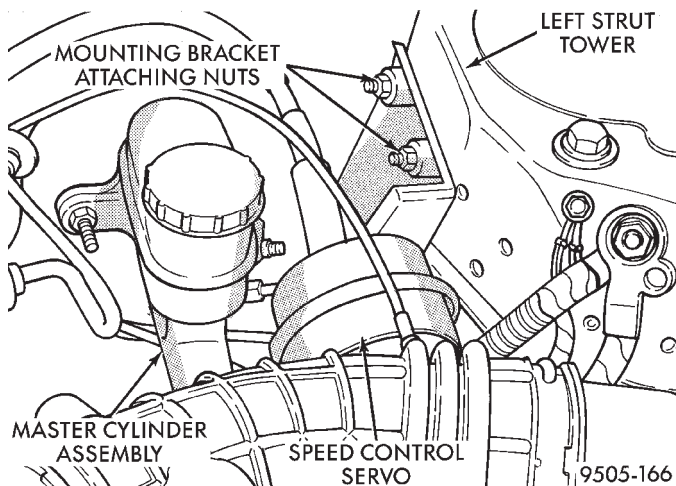

**Fig. 90 Speed Control Servo Attachment**
(3) If equipped, remove the vehicle's wiring harness connector from the speed control servo. Remove the 2 speed control servo mounting bracket to strut tower attaching nuts (Fig. 90). Without removing speed control cable from servo, move speed control servo out of the way.
(12) If equipped, install speed control servo on the mounting studs in the left strut tower (Fig. 90). Install the 2 speed control servo bracket mounting nuts (Fig. 90). Tighten the 2 mounting nuts to a torque of 6 N·m (55 in. lbs.).